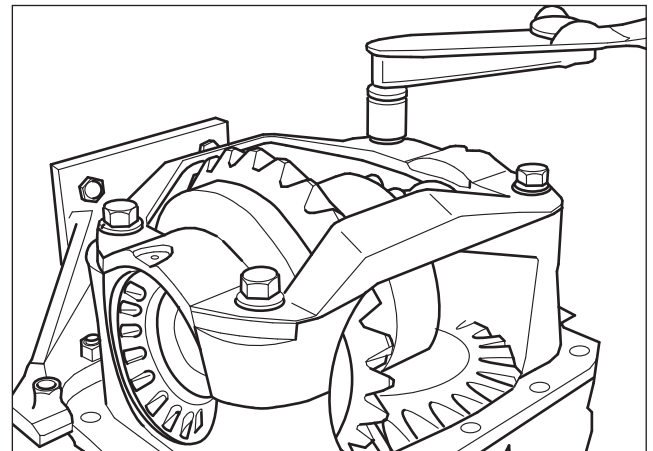

Fig. 2.8
8. Release the four bearing cap screws, discard screws and replace with new for rebuild. (Fig.2.8)